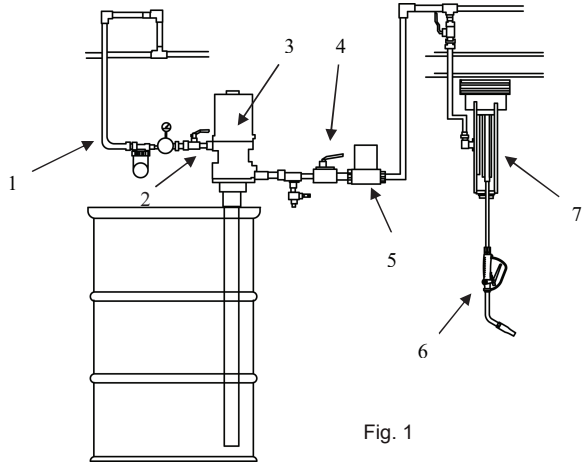

Fig. 1
Fig. 1 shows a typical installation.
The installation shown in Fig. 1 is only a guide. The components shown are typical; however, it is not a complete system design. Contact your distributor for assistance in designing a system to suit your particular needs.
2. Close the fluid shut-off valve (Item 4 in Fig.1).